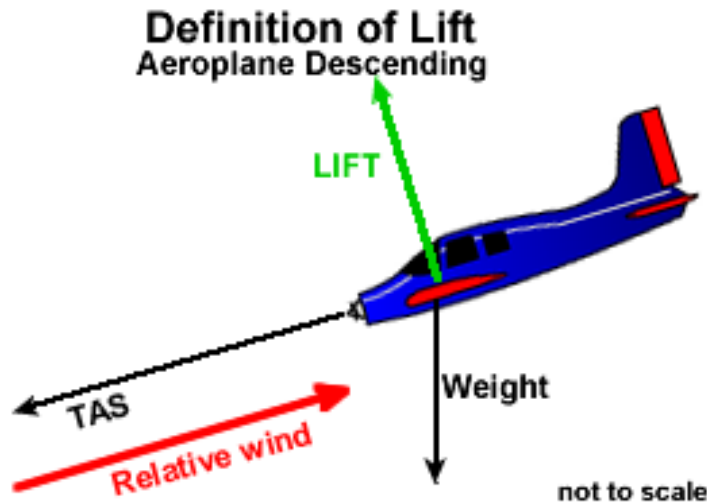

Figure 20
Lift (L) is defined as the force **perpendicular to the direction of flight**, which is the same thing as saying perpendicular to the relative wind. Be certain to fully grasp this definition because lift is **NOT** necessarily always “the force that opposes weight.” Failure to grasp this is often a source of great confusion. Consider Figure 20, in which an aeroplane is descending. Weight acts down, but lift acts in an inclined direction that is perpendicular to the relative wind. Many pilots get their minds stuck on the idea that lift always acts “up” and consequently have trouble grasping aerodynamics. Try to shake that idea. Lift only opposes weight in straight and level flight.